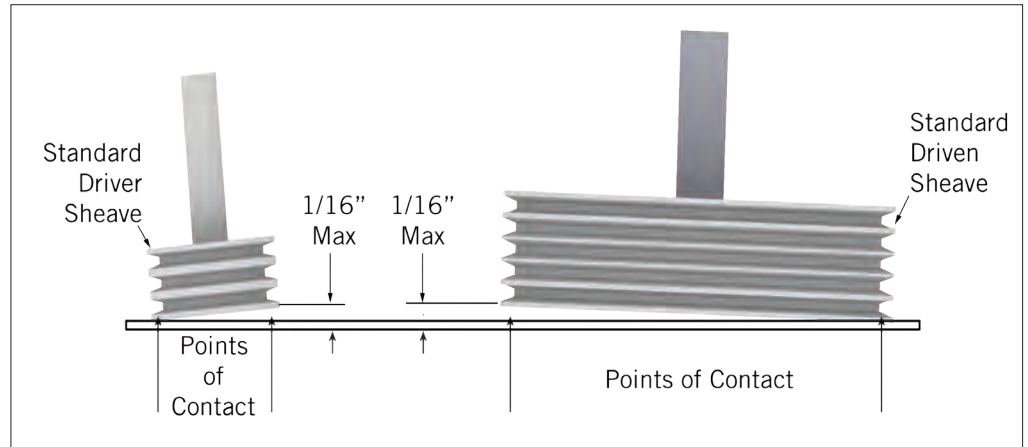

Figure 5. Drive Alignment
- Place a straight edge across the driver and the driven sheaves as shown in **Figure 5**.
- There should be no more than 1/16" deviation from the four points of contact with the straight edge, as shown in **Figure 5**.